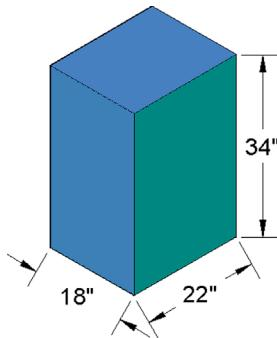

FIGURE 24.18 Wastebasket, Step 1.
Step 1. Clear your screen of previous work, and make sure you are in the SW Isometric view. Starting from the beginning, draw a $22'' \times 18''$ rectangle and extrude it to $34''$. The result is a block of material similar to what we just created when we practiced the taper command. It is shown shaded, we use a different color, in Fig. 24.18.